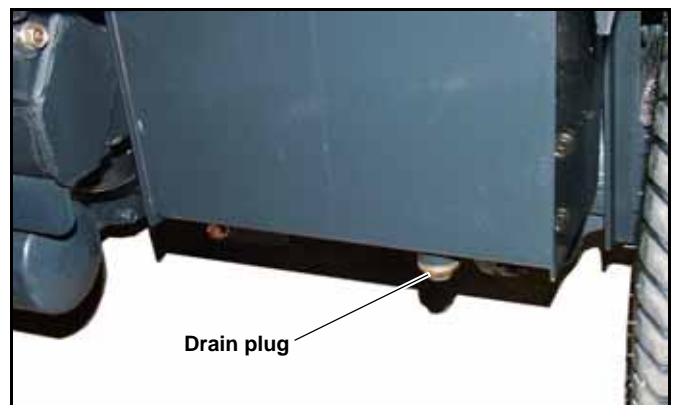

Figure 4-27
1. With the oil at normal operating temperature, drain and discard the oil by removing the transmission drain plug. Reinstall the plug after the oil has drained. Figure 4-27